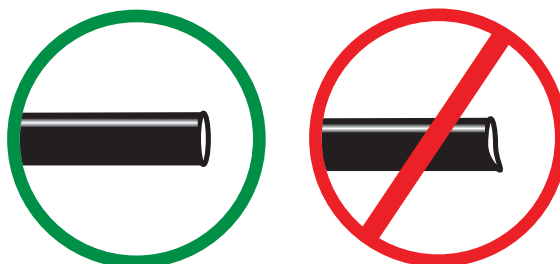

fig. 25
- a. Check the air line connection by deflating the spring and removing the line by pulling the collar against the fitting and pulling firmly on the air line. Trim 1" off the end of the air line. Be sure the cut is clean and square (see Fig. 25). Reinsert the air line into the push-to-connect fitting.
2. If the preceding steps have not resolved the problem, call Air Lift customer service at (800) 248-0892.